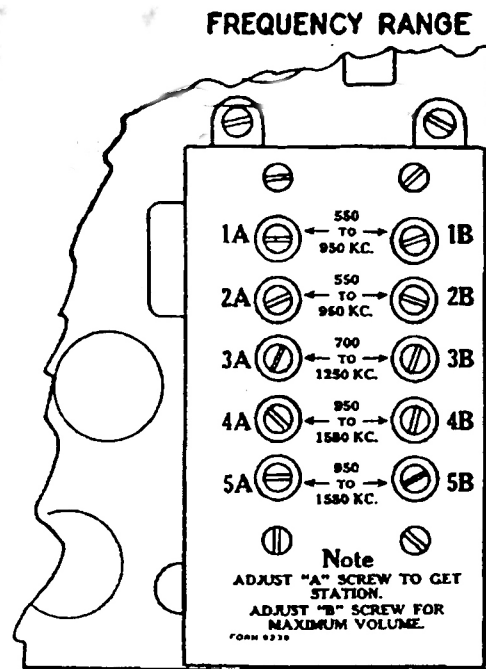

FIG. 5
- (a) Select call-letter tabs of the five stations which you wish to set-up on the Automatic Station Selector. The station for each position must be in the frequency range shown in Fig. 5. Also remove, from the sheets of station call letters, the tab which is marked with the word "DIAL."
2. Arrange call letters in the order of the station frequency (Kilocycles). The lowest frequency station appearing first. Note that the frequency of each station falls within the range specified in Fig. 5 on Page 9.
4. Remove the front cover on the receiver case. Two slots are provided at each side of the case so that the cover can be pried off easily. CAUTION: If cover is pried off with a screwdriver do not push screwdriver too far into case. After the cover has been removed you will note two rows of adjusting screws in the receiver (see Fig. 5).